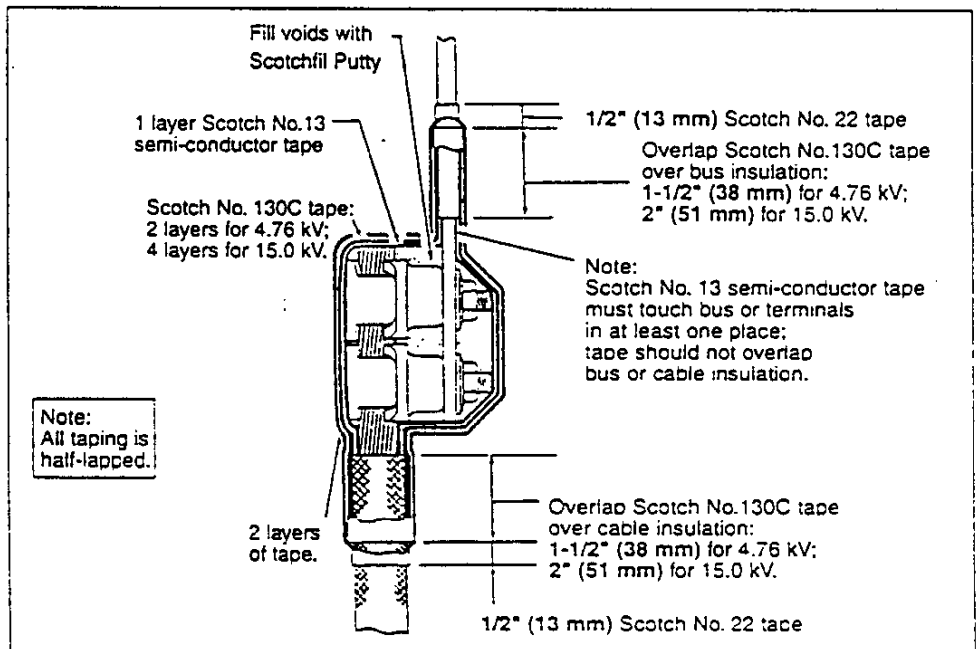

Figure 21: High voltage cable lug insulation
1. Place 3M brand Scotchfil putty around the lugs and bolts to reduce the concentrated field created by their irregular shapes (figure 21). Apply a layer of No. 13 semi-conducting tape over the Scotchfil. Half-lap the tape, which must extend onto the conductor. Do not extend the tape up over the bus epoxy insulation. Apply Scotch brand No. 130C tape over the No. 13 tape. Half-lap this tape for two layers on 4.76 kV installations, and four layers on 8.25 kV and 15.0 kV installations. For 4.76 kV applications, extend this tape 1-1/2" (38 mm) up over the bus insulation and cable insulation; extend the tape 2" (51 mm) for 15.0 kV applications.